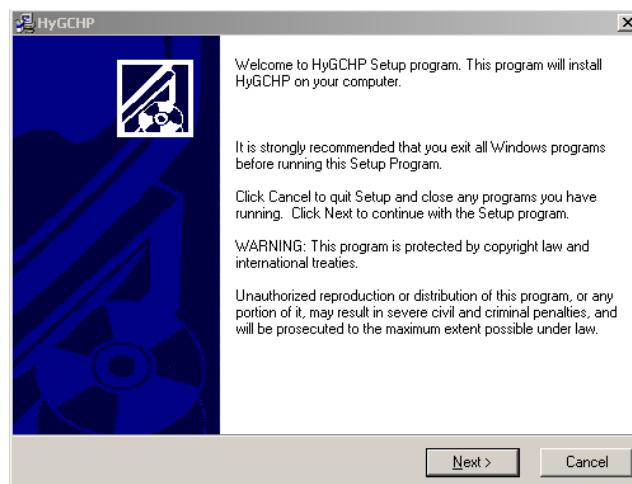

Figure 1. Installation screen for HyGCHP Program
- 2.) The hybrid simulation is installed by the program HyGCHP.exe. Double click on the HyGCHP.exe icon to install this program (Figure 1).